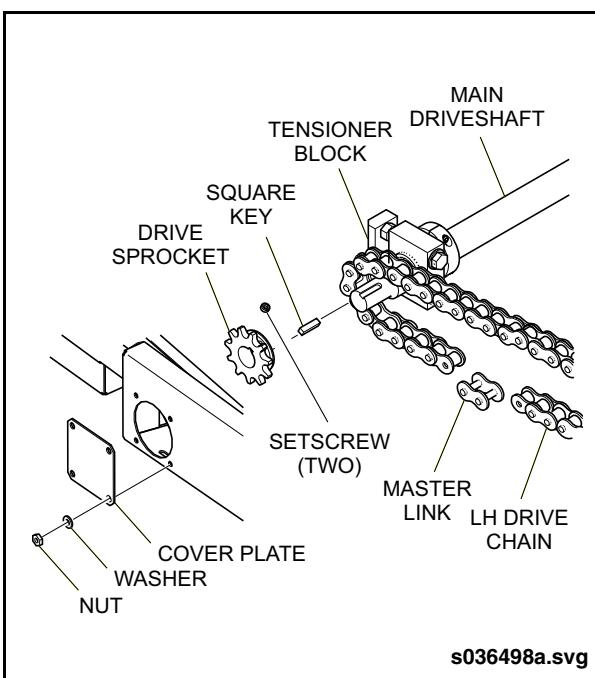

Fig. 20-10: Drive Chain & Sprocket
4. Disconnect the master link on the LH and RH drive chains and lift chain from sprockets. See "Fig. 20-10: Drive Chain & Sprocket" on page 17.